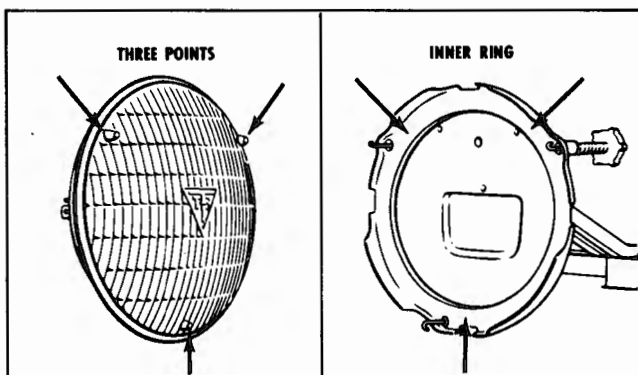

Fig. 12-63 Setting Up T-3 Aimer
3. Using spring-loaded hooks of Safety-Aimer to engage headlamp retaining ring, fasten T-3 Safety-Aimer on each headlamp with inner ring against points on lens and cross arms horizontal (Fig. 12-63). (Aimer with the string should be fastened to left headlamp.)